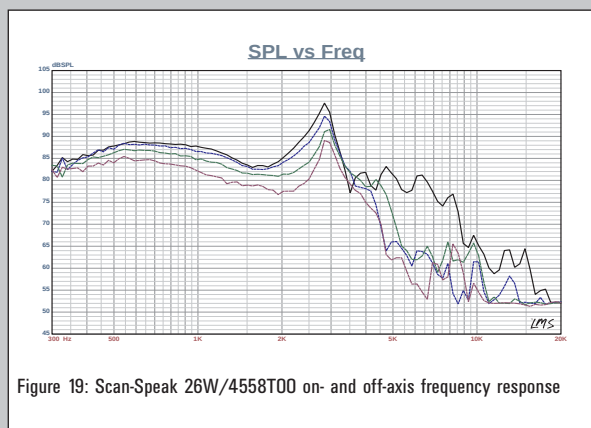

Figure 19: Scan-Speak 26W/4558T00 on- and off-axis frequency response
**Figure 19** has the on- and off-axis frequency response at 0°, 15°, 30°, and 45°. With respect to the on-axis curve,  $-3$  dB at 30° occurs at 1.0 kHz, so a cross point anywhere below that frequency should be fine. It certainly